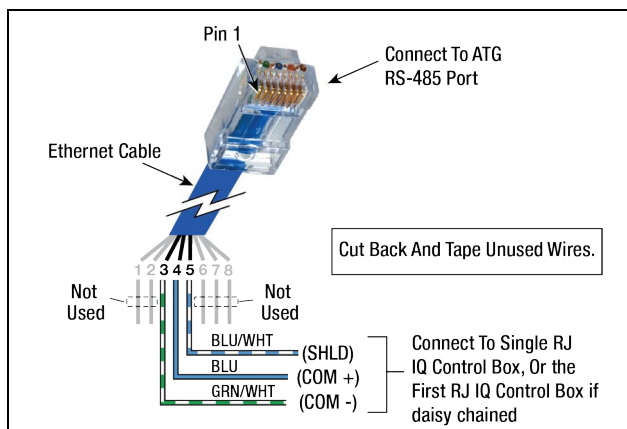

Figure A-1. RS-485 Serial Cable Pin-Outs
6. Prepare a satisfactory length of CAT5 or better 3-wire cable having a RJ-45 connector on one end (connects to TLS-450PLUS and no connector on the end that connects to the IQ Control Box (see Figure A-1).